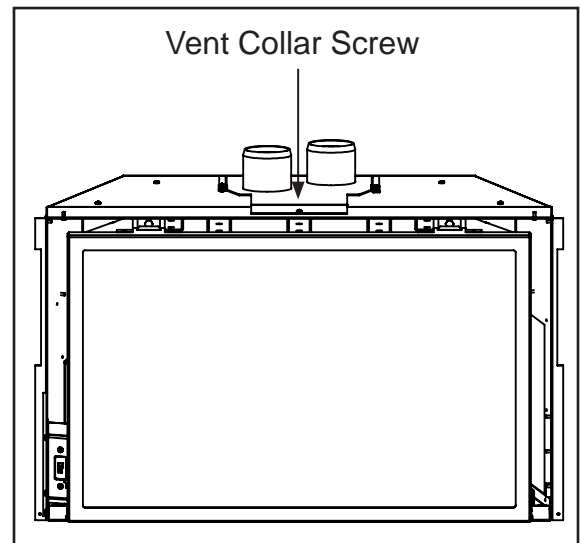

Figure 21: Vent Collar Plate Screw Location.
8. Apply a bead of stove cement sealant to the Ø3" (76mm) pipe of the exhaust vent terminal. Slide the flex liner onto the vent terminal and secure with three (3) sheet metal screws evenly spaced.
9. Place a bead of high temperature silicone on the intake collar of the vent terminal. Slide the Ø3" (76mm) flex intake liner over the collar, secure the flex liner with three (3) sheet metal screws evenly spaced. Secure the vent terminal to the chimney using adequate sealant, and according to local building codes.
10. If the fireplace opening is lower than 24" (610 mm), remove the vent collar plate from the top of the insert by unscrewing the 5/15" screw located on the center top of the stove above the door opening (see Figure 21). Slide the collar plate backwards. Properly secure the vent collar plate to the flexible vent pipe liner(s) previously installed in the chimney. Be careful not to over-stretch the liner(s).
11. Apply a bead of stove cement sealant to the top section of the Ø3" (76mm) exhaust vent collar plate. Slide the Ø3" (76mm) flex vent over the flue collar and secure with three (3) sheet metal screws evenly spaced.
12. Place a bead of high temperature silicone on the intake collar of the fireplace, slide the Ø3" (76mm) flex intake liner over the collar, secure the flex liner with three (3) sheet metal screws evenly spaced.